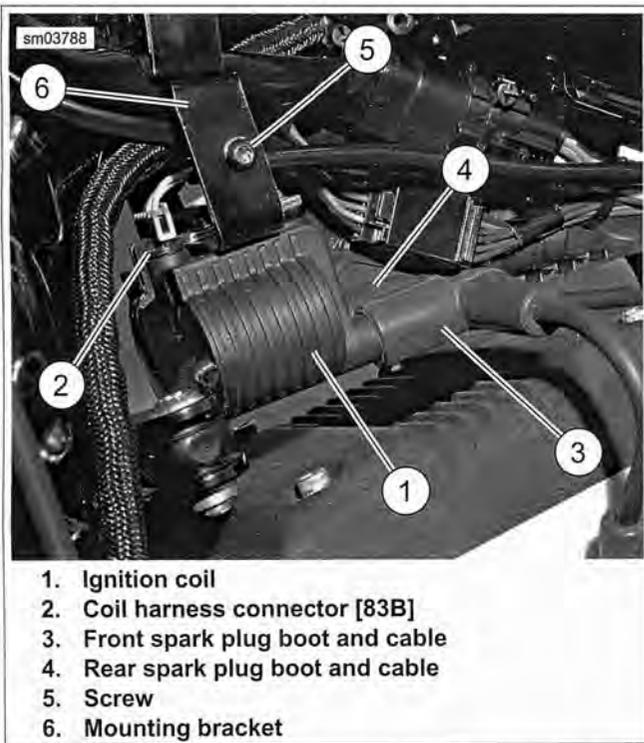
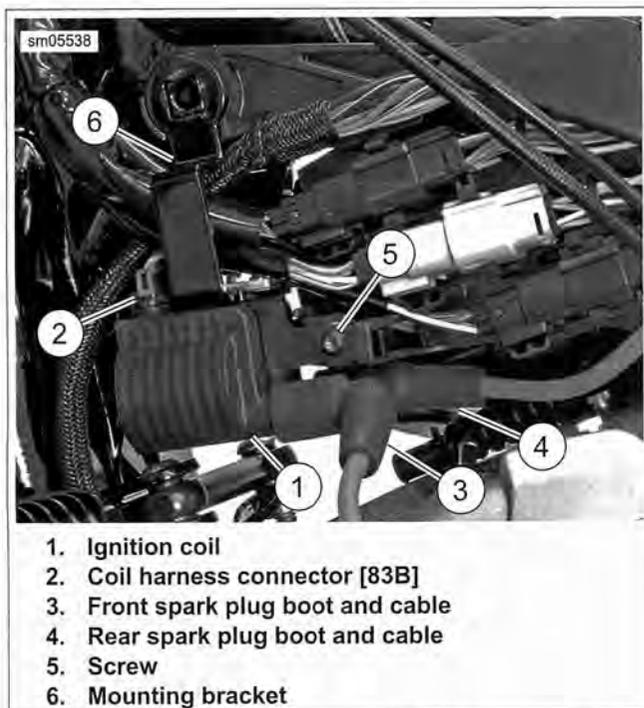
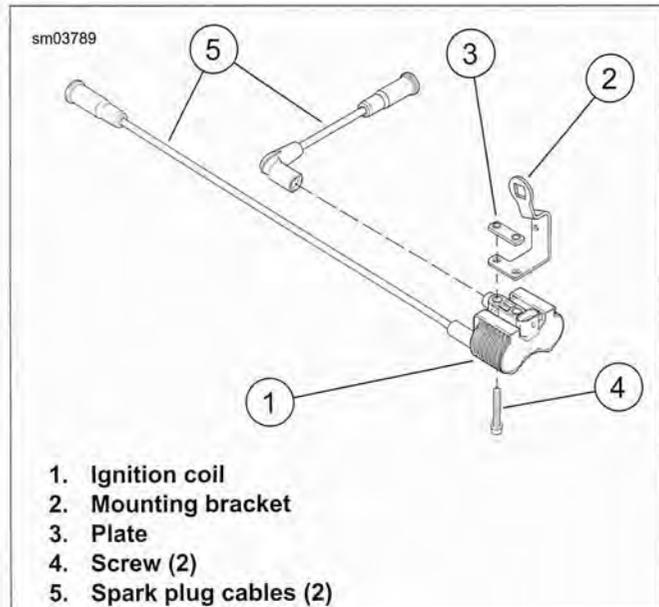
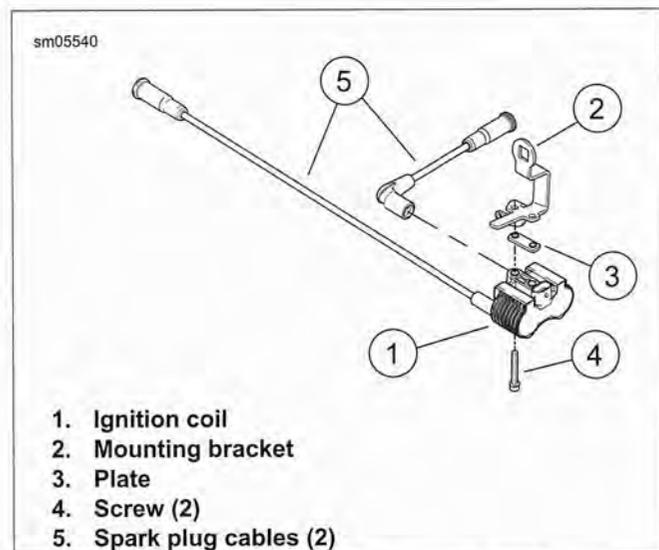

Figure 6-42. Ignition Coil Mounting and Connections: XL Models Only
Figure 6-43. Ignition Coil Mounting and Connections: XR 1200X
Figure 6-44. Ignition Coil Mounting: XL Models Only
Figure 6-45. Ignition coil Mounting: XR 1200X
6. See Figure 6-42 or Figure 6-43. Unplug coil harness connector [83B] (2) from ignition coil (1).
7. Pull front spark plug boot and cable (3) from left ignition coil tower.
8. Pull rear spark plug boot and cable (4) from right ignition coil tower.
9. Remove screw (5) securing coil bracket (6). Remove coil and bracket from vehicle.
10. See Figure 6-44 or Figure 6-45. Remove two screws (4) to separate ignition coil (1) from mounting bracket (2) and plate (3).
1. **XL Models:** See Figure 6-44. Position **new** ignition coil (1) on underside of mounting bracket (2). Fasten coil to mounting bracket with two screws (4) and nut plate (3). Tighten screws to 24-72 **in-lbs** (2.7-8.1 Nm).
2. **XR 1200X:** See Figure 6-45. Position plate (3) over **new** ignition coil (1). Place screws (4) through coil and plate and secure to mounting bracket (2). Tighten screws to 24-72 **in-lbs** (2.7-8.1 Nm).
3. See Figure 6-42 or Figure 6-43. Slide coil (1) with mounting bracket (6) into position. Make sure all wiring harnesses from front end of vehicle are positioned between coil bracket upright and vehicle frame. Secure bracket with screw (5) and tighten to 35-45 **in-lbs** (4.0-5.1 Nm).
4. Plug spark plug cables into ignition coil towers; front spark plug cable (3) to left side of coil, rear spark plug cable (4) to right side of coil.